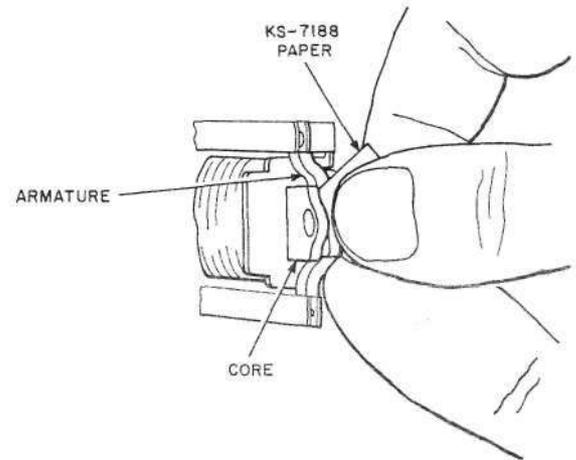

Fig. 40—Method of Cleaning Armature and Core on A-, AB-, E-, EA-, F-, H-, R-, and T-Type Relays
7.03 *Armatures and Cores of A-, AB-, AF-, AG-, AJ-, AK-, AL-, AM-, 286-, 287-, 288-, E-, EA-, F-, H-, R-, T-, U-, UA-, UB-, and Y-Type Relays:* Insert KS-7188 paper between the armature and the core (or between the armature and the tip of the adjustable stop pin on F-type relays). Press the armature manually toward the core so the paper is held with a slight pressure between these parts and then withdraw the paper. Examine the paper for evidence of dirt. Using a clean piece of paper each time, repeat the operation until the paper shows no evidence of dirt when it is removed (see Fig. 40, 41, 42, and 43).